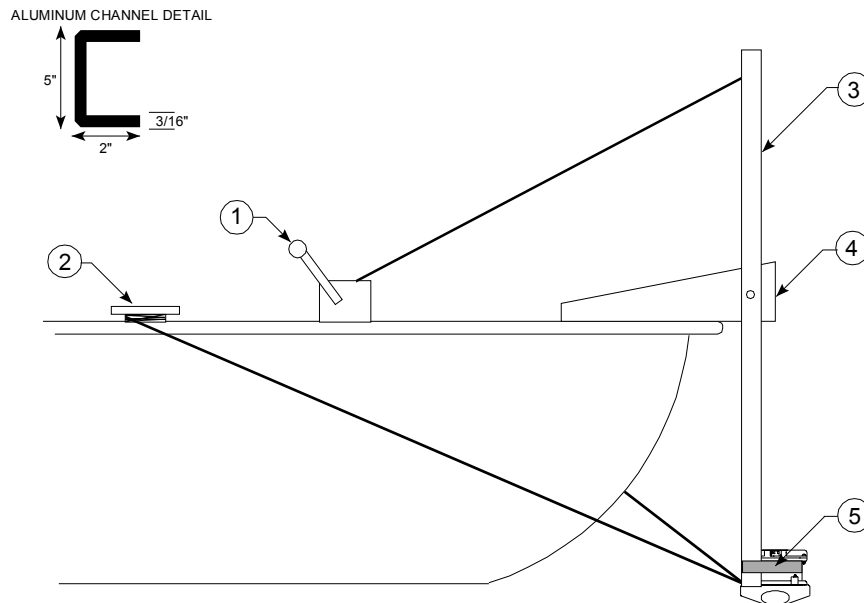

Figure 9. Mounting an ADCP to a boat
- Mount to the vessel (Figure 9 shows an ADCP mounted to a boat).